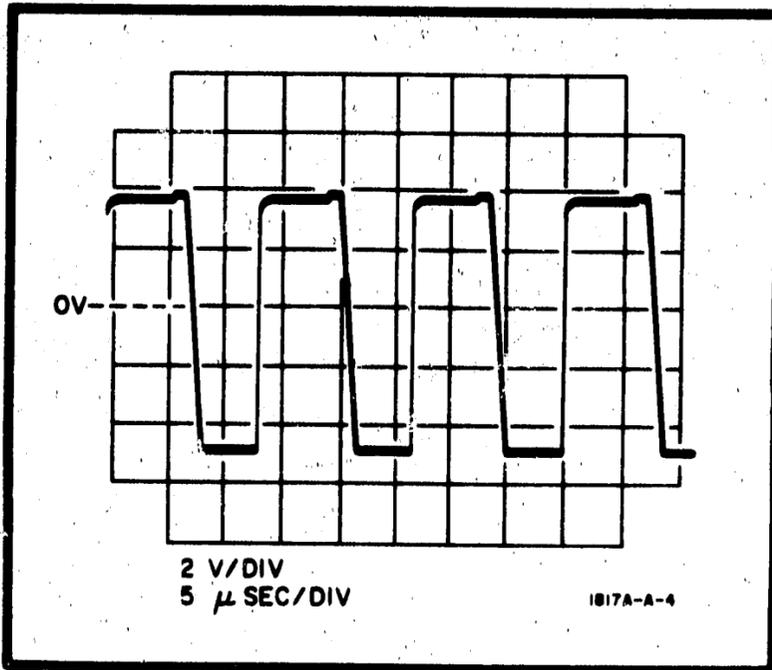

Figure 8-4. Waveform at Pin L, Step Trigger
- e. If the bump is absent, set the Model 1815A NSEC/DIV switch to 1 and disconnect the interconnecting cable from the remote sampler. Observe the signals at pin L and pin B. The signals should be similar to those shown in Figures 8-4 and 8-5.